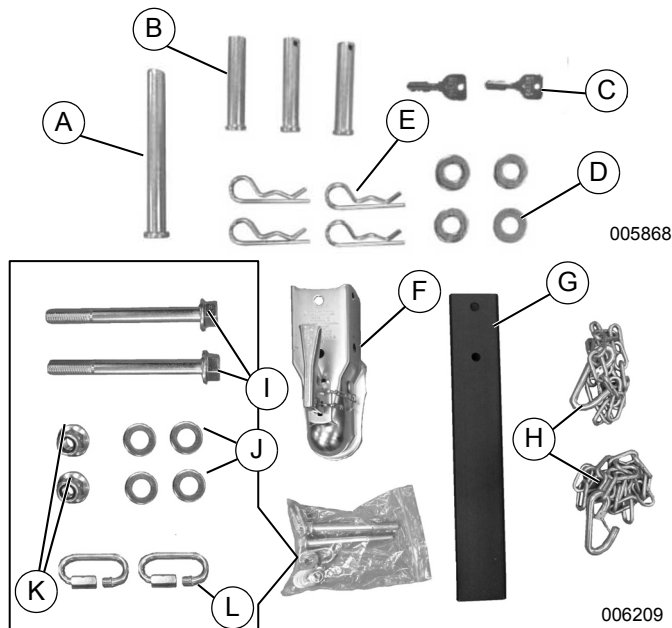
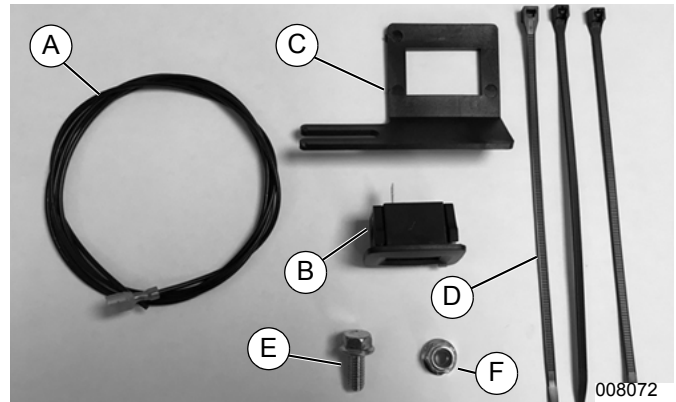

Figure 2-1. Hardware Supplied in Product Package
Figure 2-2. Maintenance Meter
1. See **Figure 2-1** and **Figure 2-2**. Verify carton contents prior to assembly. Carton contents should contain the following.